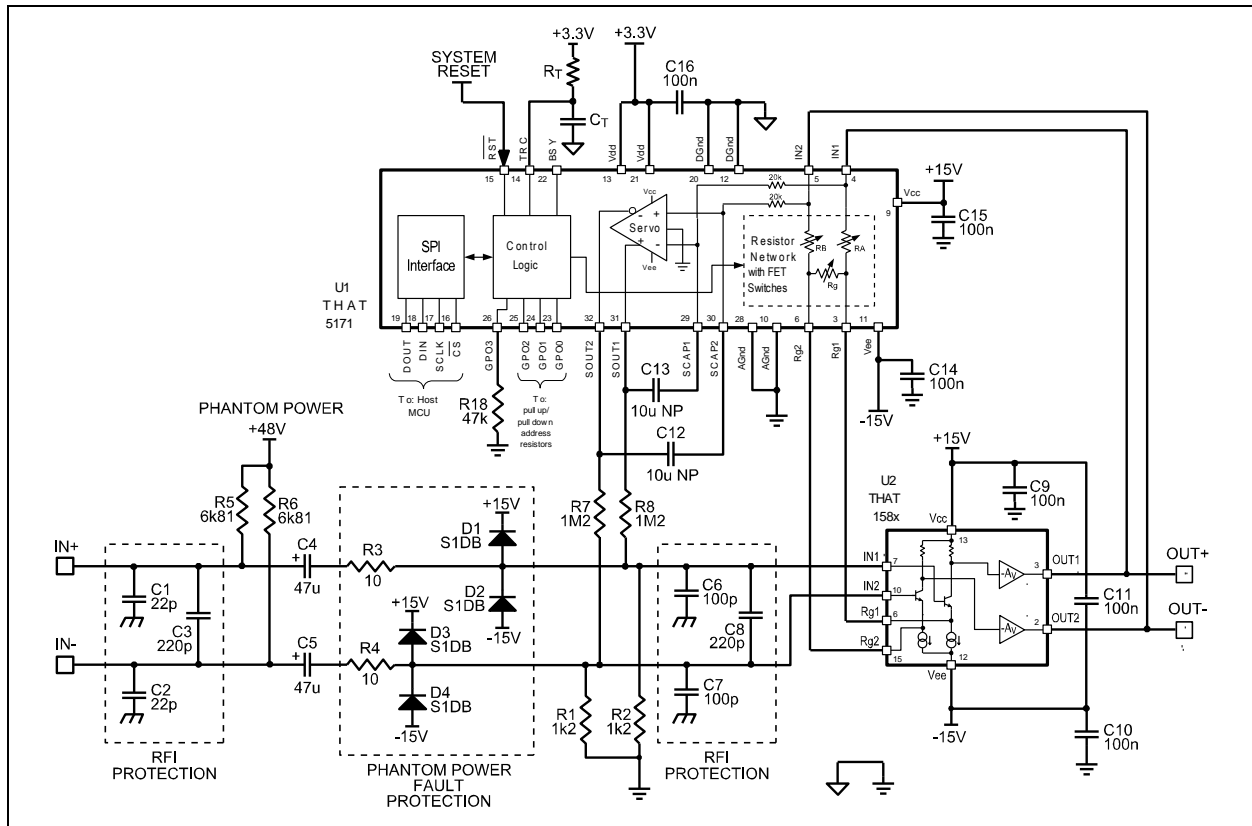
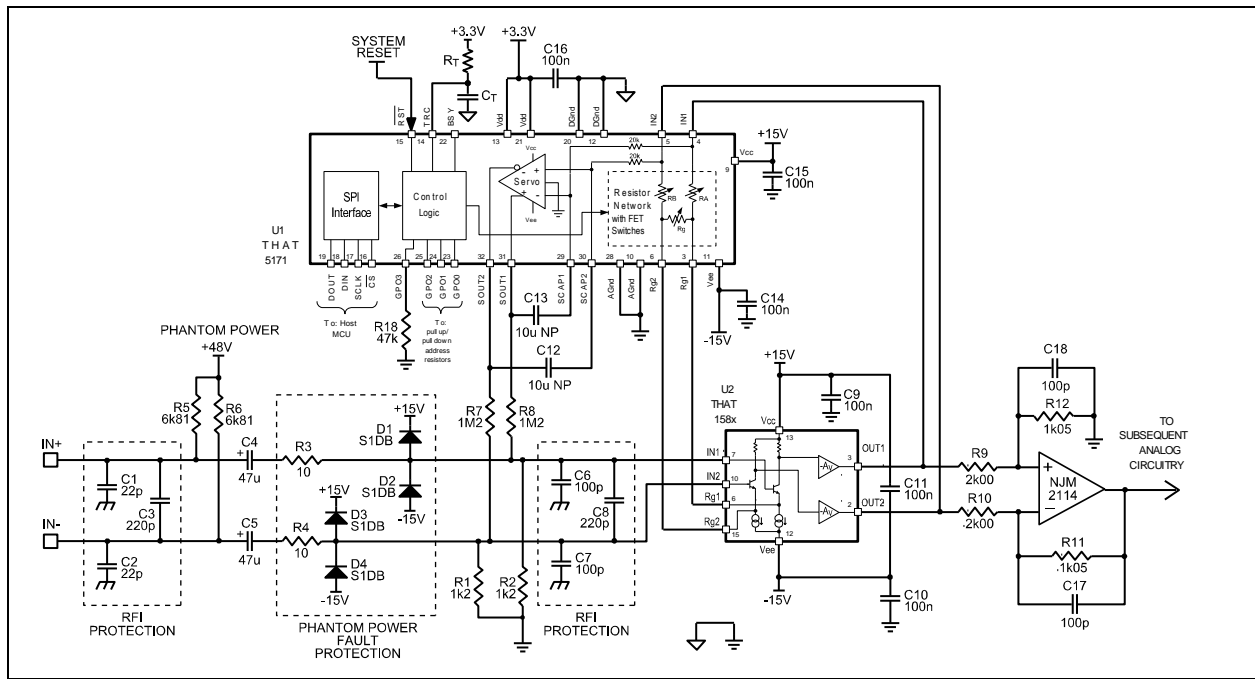

Figure 4. 5171/ 158x basic application circuit.
Figure 5. 5171/158x typical application with single-ended output.
The circuit of Figure 4 shows the most basic application of the 5171 and 1580 to form a complete low-noise microphone preamplifier.
The circuit of Figure 4 offers differential gain that varies from 5.6 to 68.6dB. There is one large ~8dB step from 5.6dB to 13.6dB. Above 13.6dB, gain may be controlled in 1dB steps to +68.6dB. For single-ended analog outputs, the circuit of Figure 4 can be followed by a differential-to-single-ended converter, as shown in Figure 5. Here, the differential amplifier is configured for -5.6dB gain in order to minimize noise and maximize headroom at the output of the circuit. Including the 5.6dB attenuation in the differential amplifier, the system gain can be set to 0dB, or any gain from +8dB to +63dB in 1dB steps.
With the circuit of Figure 5, the maximum input signal levels remain the same, but the (now single-ended) output levels drop by 5.6dB due to the loss of the differential amplifier. When converting to single-ended signals, take care to select a low-noise opamp, and pay attention to the noise generated by the impedances. The component values shown in Figure 5 will largely preserve the dynamic range of the 1580 and 5171 combination, though they do compromise noise by 1dB at the lowest gain settings.
The circuits of Fig 4 through 7 include RFI protection in two sections. Small capacitors (C1 and C2) are used from the positive and negative signal inputs to chassis ground, along with a larger capacitor (C3) across the two inputs. These components should be located as close as possible to the input signal connector, and are intended to prevent RF from entering the chassis of the device.
- 2) **ZERO-CROSSING Mode:** Updates are made on the next output signal zero-crossing after a rising edge on the /CS pin. An RC time constant connected to the TRC pin ( $R_T/C_T$  in Figures 4~7) establishes a time-out period in case a zero-crossing does not occur within a desired time window. The zero-crossing time-out function operates as follows: